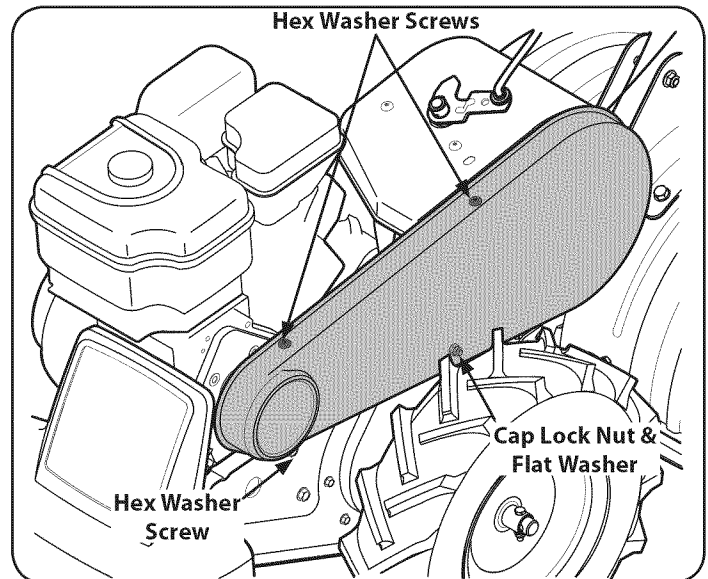

Figure 26
1. Remove the belt cover from the left side of the tiller by removing the two hex washer screws from the top of the belt cover. See Figure 26.
2. Remove the cap lock nut and flat washer from the front side of the belt cover. Remove the hex washer screw at the back of the cover. See Figure 26.